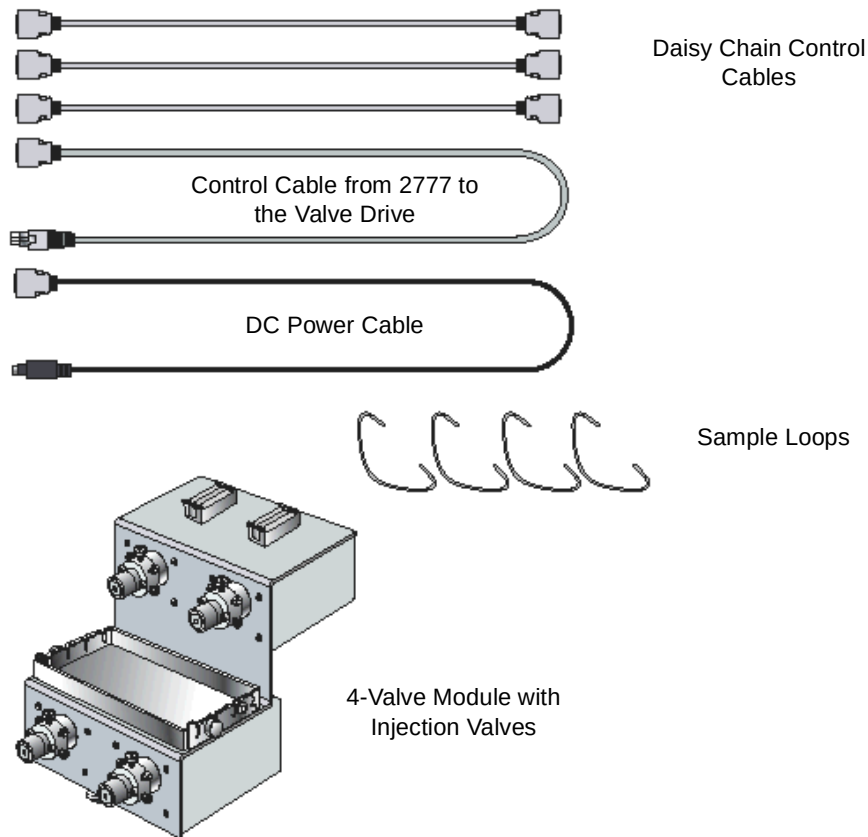

Figure 2-16 Components of the 4-Valve Module
1. Unpack the components (Figure 2-16). You also receive the following components: